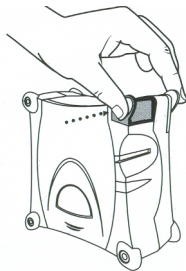

Figure 6
- Squeeze the cutter lever to cut the label. See Figure 6.